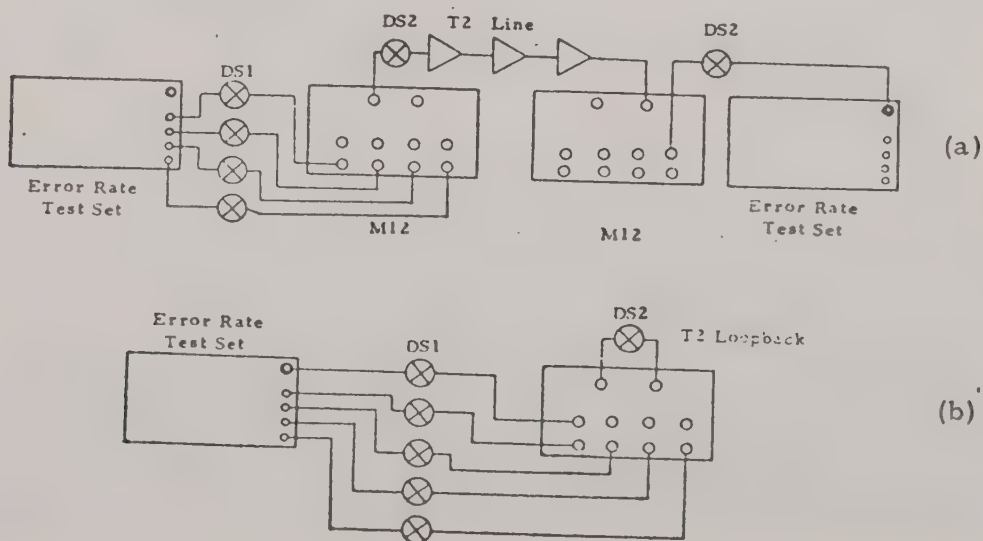

Figure 3-2: Higher Order System and Analog Medium Applications
- 3.2.3 Multiplexers and modems interfacing DS1, T1-type, signals to either higher order digital systems or analog systems are capable of removing bipolar violations from their inputs and/or can cause logical errors without violations appearing in the output data. It follows that the same is true of systems such as intercity spans, if they contain these components anywhere between their end points. The pseudo-random sequence and logical errors detection make it possible to evaluate such systems. It should be noted that BPV testing is not adequate for such systems as only the near-end bipolar equipment will be tested by BPV techniques. As an example, consider the DS1 to DS2, T1 to T2 (M12) multiplexer which combines four DS1 data streams into one DS2 stream. While the test sequence is needed only for the channel under check, the Error Rate Test Set provides four identical outputs to identically stress all four channels of the multiplexer. Not only are loopback and end-to-end tests possible, but tests over the higher order system or analog medium are also possible, as depicted in Figures 3-2 (a) and (b).